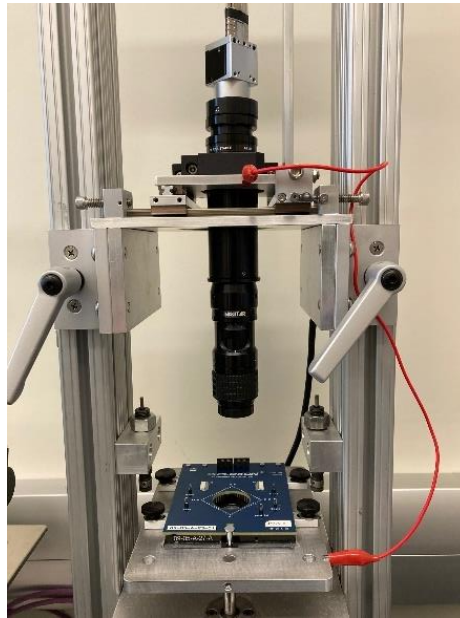

Fig. 10: Connecting the imaging stage to the MEASSuRE frame.
- (i) Ground the imaging platform to the MEASSuRE frame to keep them both at the same potential (red cable in **Fig. 10** below). If the frame is anodized, connect to a non-anodized screw on the frame.